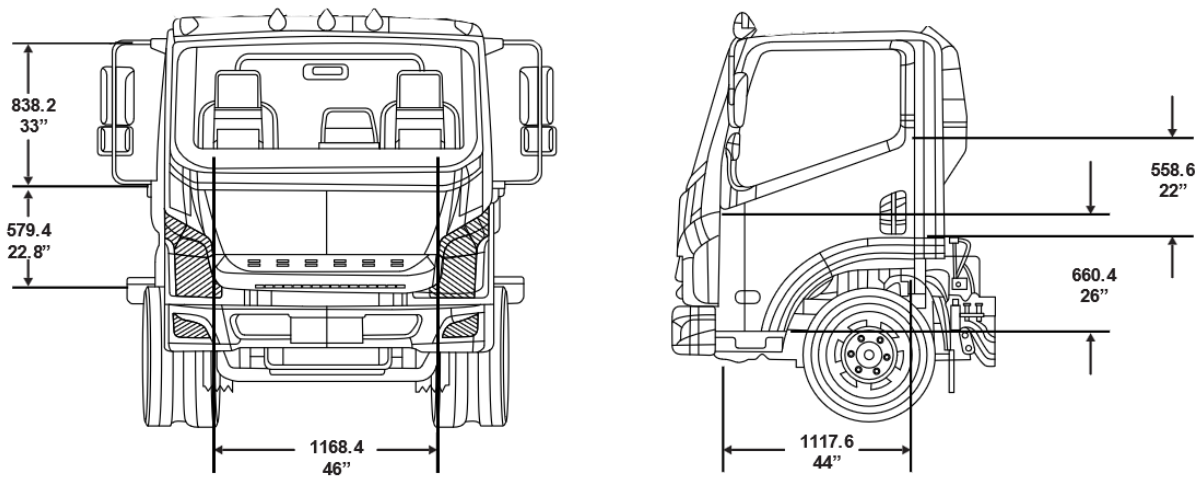

Figure 2
10. Raise cab to full lift position and ensure cab tilt support arm (E) is fully locked, see figure 2.
11. Insert lock pin (G) into cab tilt support arm (E), see figure 2.